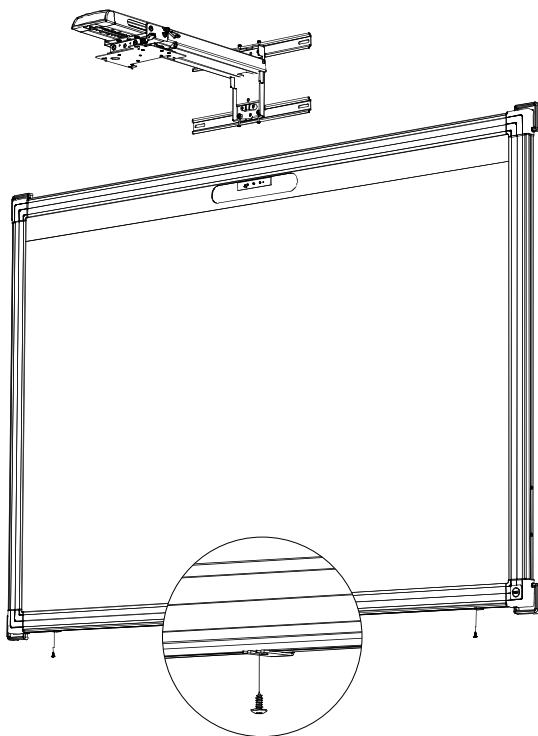

Figure 7
14. Secure bottom of screen to wall using (3) of the supplied #8 x 1/2" screws through bottom brackets into the lower channel of the screen frame (Figure 7).